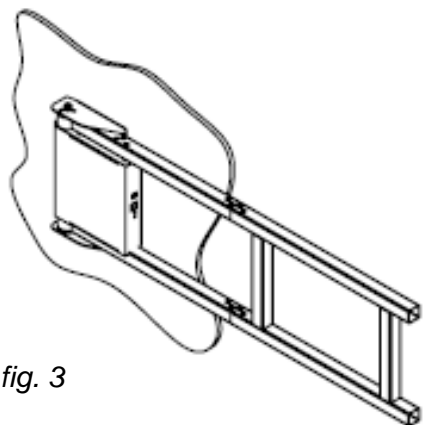

fig. 3
- Put the Swing-Mount and then move it down (fig. 3).